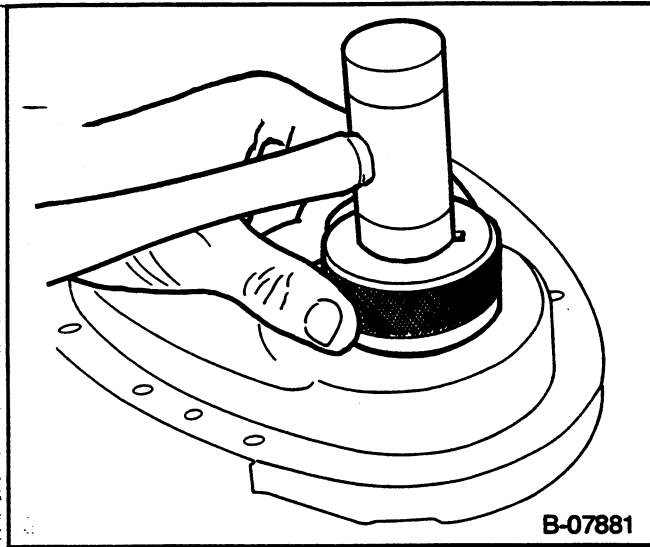

Figure 19—Installing the Front Crankshaft Oil Seal
↔ Install or Connect (Figure 19)
1. Front crankshaft seal. Use J-35468 (figure 19). The open end of the seal faces inside the engine. Coat the seal lips with engine oil.